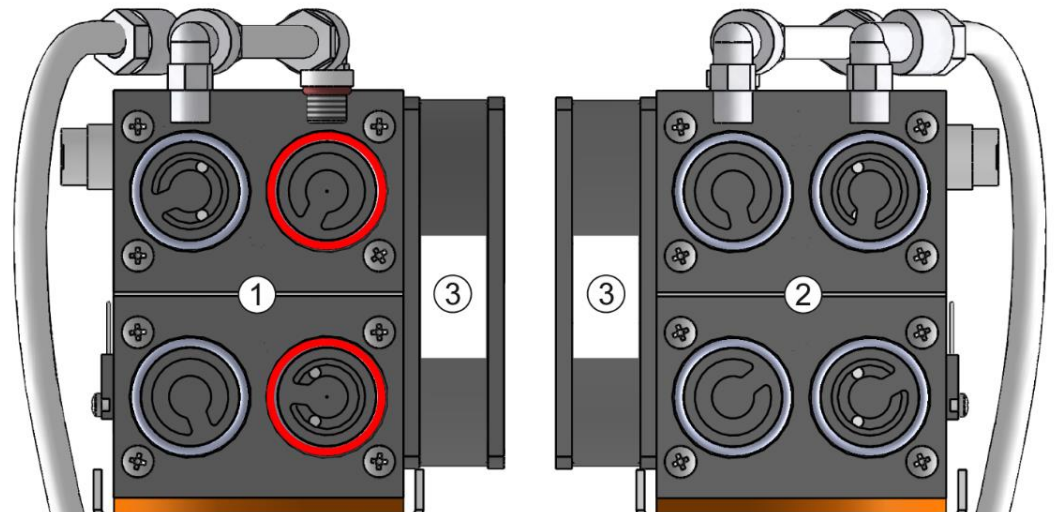

Fig. 8.7 – Valve arrangement: 1st stage (view from left), 2nd/3rd stage (view from right)
- Press the diaphragms (A) toward the inside so they are concave.
- Insert the O-rings (C) into the circular grooves of the pump head (B).
- Center the valves (D) in the O-rings (C). The smooth sides of the valves must face the sealing surface in the connection/pump head.
- Note the valve arrangement; see figure 8.7